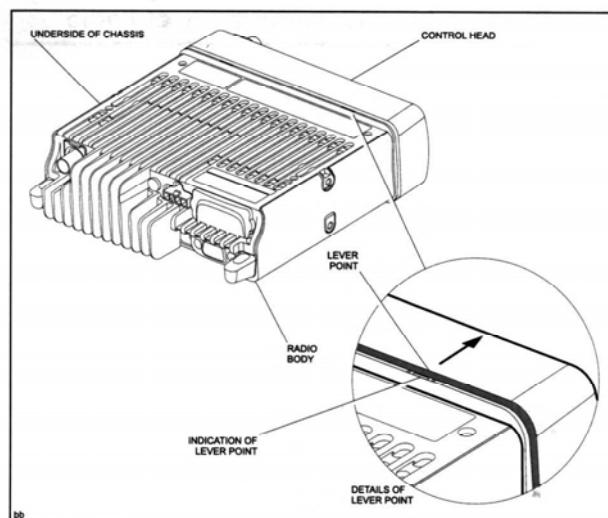

Figure 3.1 Lever points for detaching the control head from the radio body
2. Note the two points where the control head should be levered off the radio body. As shown in Figure 3.1 below, these points are indicated by a dot-dash-dot marks on the underside of the radio body. The lever point is between the rubber seal and the front panel of the control head.